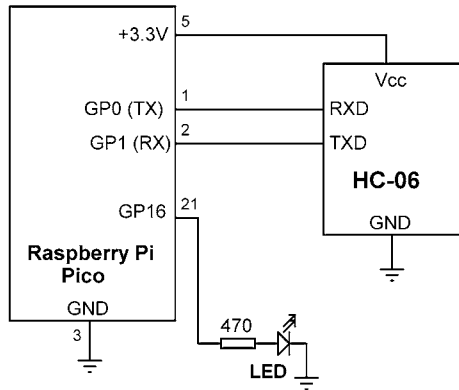

Figure 11.3: Circuit diagram of the project.
Circuit Diagram: Figure 11.3 shows the project circuit diagram. The RXD and TXD pins of the Bluetooth module are connected to UART 0 pins GP0 (TX) and GP1 (RX) of the Raspberry Pi Pico, respectively. The LED is connected to GP16 (pin 21) through a 470-ohm current-limiting resistor.